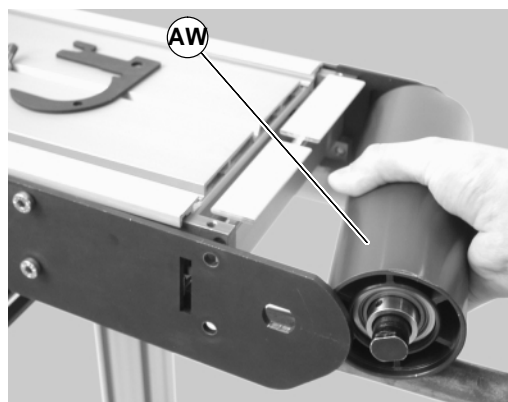

Figure 36
4. Slide the idler pulley assembly (AW of Figure 36) out of the headplate on the opposite side.